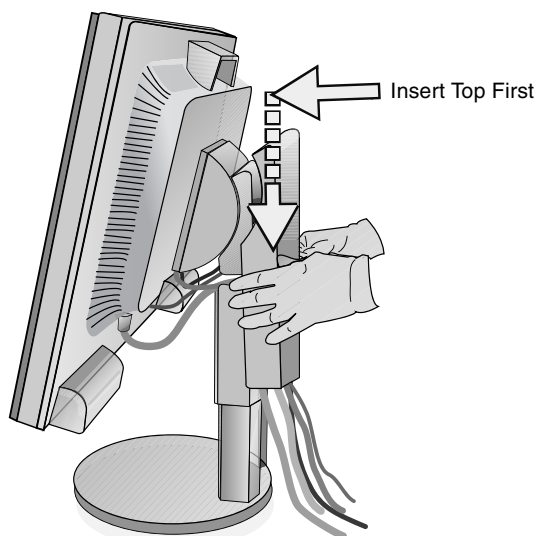
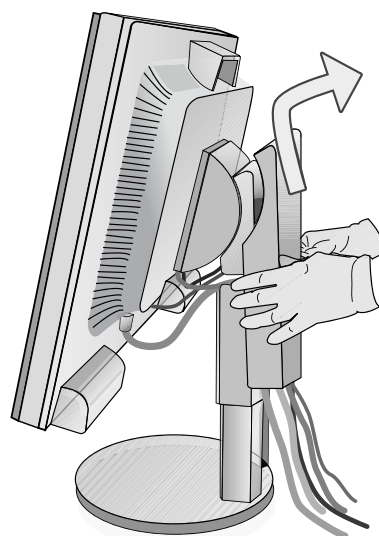

Figure D.1
Figure D.2
7. Hold all cables firmly and place the cable cover onto the stand (**Figure D.1**). To remove the cable cover, lift the cover off as shown in **Figure D.2**.